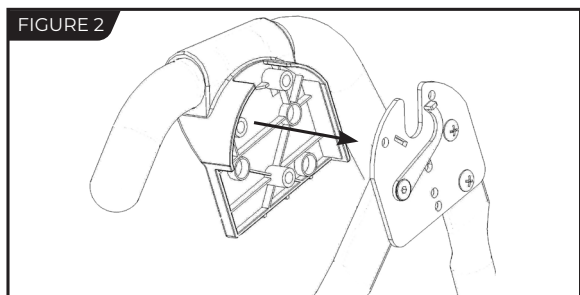

FIGURE 2
- Align the black plastic part of the corresponding handle (left / right) over the outside edge of the Hinge Plate on the A-Frame (Figure 2).